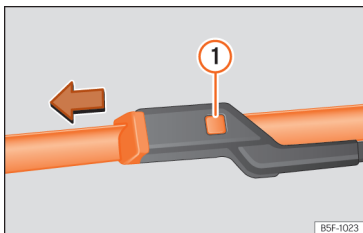

Fig. 208 Changing the windscreen wiper blades
- Press and hold release button »» Fig. 208 ① and pull gently on the wiper blade in the direction of the arrow.